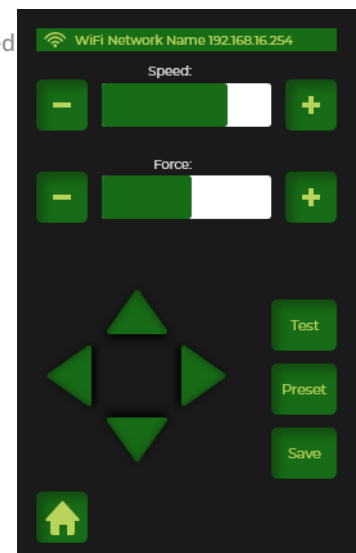

Fig. 2.2.1
Open an existing PRESET by pressing the **LOAD** button on the SPD/FOR screen (refer to FIG. 2.2.1). The eight presets are split between two screens: Touching a present illuminates the preset number.
2. Enter the desired US, VS, and FS settings and press SAVE (refer to FIG. 2.2.1). The Preset screen will open.